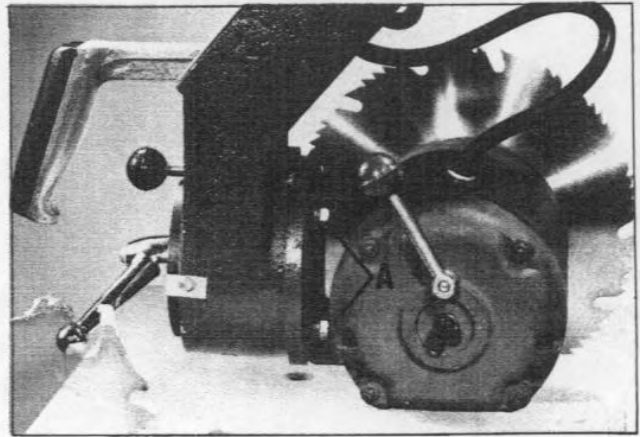

Fig. 22
3. If the blade is not square with the table, loosen the four bolts (A) Fig. 22, located on the motor and the motor bracket.
5. When you are sure the blade is square with the table, tighten four bolts (A) Fig. 22.